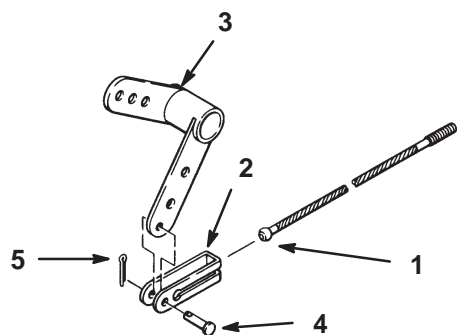

Figure 9
10. Lower attachment lift and place cable, ball end, into slot in clevis (Fig. 9). Attach clevis to hole in attachment lift and secure with clevis pin and a cotter pin (1 inch) (Fig. 9).